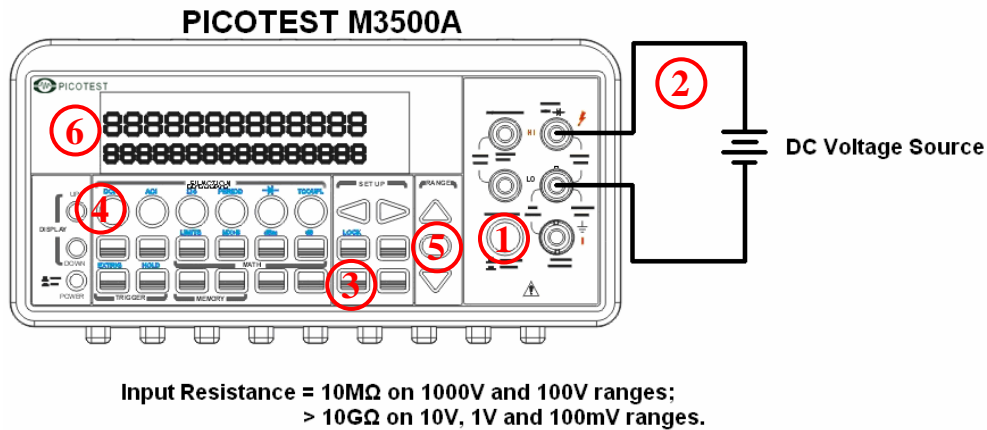
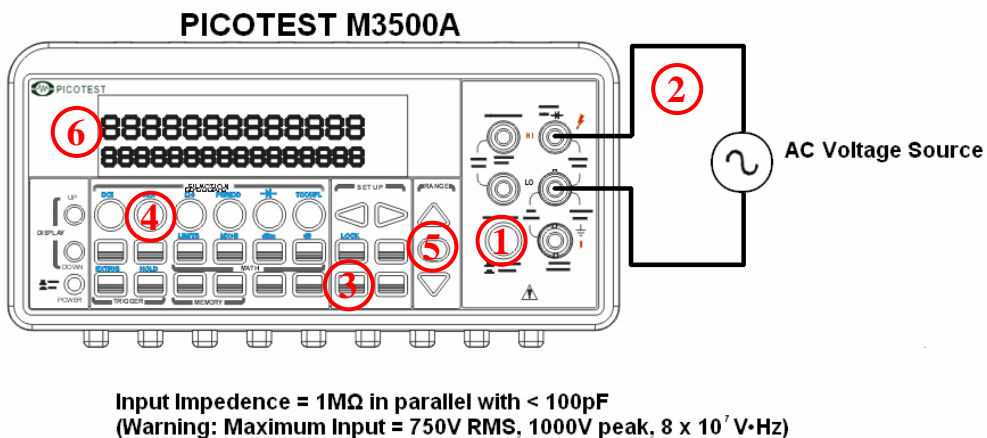
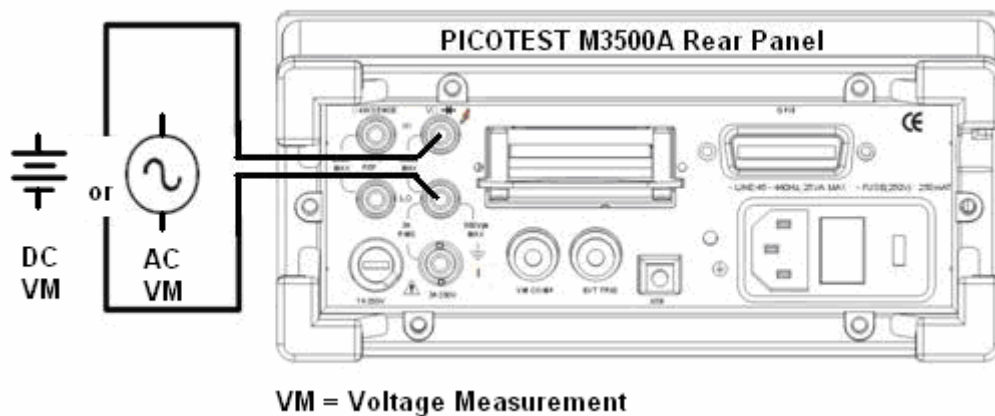

Figure 3-1
Figure 3-2
Figure 3-3
The ranges for DC voltage measurements in M3500A are 100mV, 1V, 10V, 100V and 1000V. For AC voltage measurements, the ranges are 100mV to 750V AC-Coupled TRMS, or 1000V peak. **Figures 3-1** and **3-2** show the locations of the buttons needed and message display for voltage measurement. **Figure 3-3** shows the location of the input terminals on the rear panel.
- ① Selects input signal connections on front or rear panel.
- ② Connect the test leads to the terminals as shown in **Figure 3-1**(DC) or **Figure 3-2** (AC).
- ③ Set RESOLUTION of DCV (Refer to 4.1.3), BAND WIDTH of ACV (Refer to 4.1.2.1) or skip this step if default is to be used.
- ④ Press DCV or ACV button for DC or AC voltage measuring.
- ⑤ Select the auto-range function by pressing AUTO button on the front panel or use \triangle ∇ buttons to select desired range.
- ⑥ Connect test leads to your source signal and observe the reading shown on the display. If the input signal is beyond the allowed range, an overflow message “OVLD” will be displayed.
※ Note: The rear panel terminals can also be used via the same procedures as the front panel terminals. (Refer to Figure 3.3)
- ② Connect the test leads to the terminals as shown in **Figure 3-2**.
- ③ Set RESOLUTION (Refer to 4.1.1) and INPUT JACK. Or skip this step if default is to be used.
- ④ Press FREQ button for frequency measurement or SHIFT + FREQ buttons for period measurement.
- ⑤ Select the auto-range function by pressing AUTO button on the front panel or use \triangle and ∇ buttons to select the desired range.
- ⑥ Connect test leads to your source signal and observe the reading shown on the display. If the input signal is beyond the allowed range, an overflow message "OVLD" will be displayed.
※ **Note:** The rear terminal panel also can be used via the same procedures as the front panel. (Please refer to **Figure 3-3**)
- ① Connect the test leads to the terminals as shown in **Figure 3-2**.
- ② Set REConnect the input signal as the following figure.
- ③ Set threshold resistance via pressing CONFIG + CONT buttons. (Or skip this step if default resistance is to be used) When ready, press ENTER button.
- ④ Press CONT button.
- ⑤ The measured value will be shown on the display automatically. Meter “beeps” when measured resistance value is lower than threshold value.